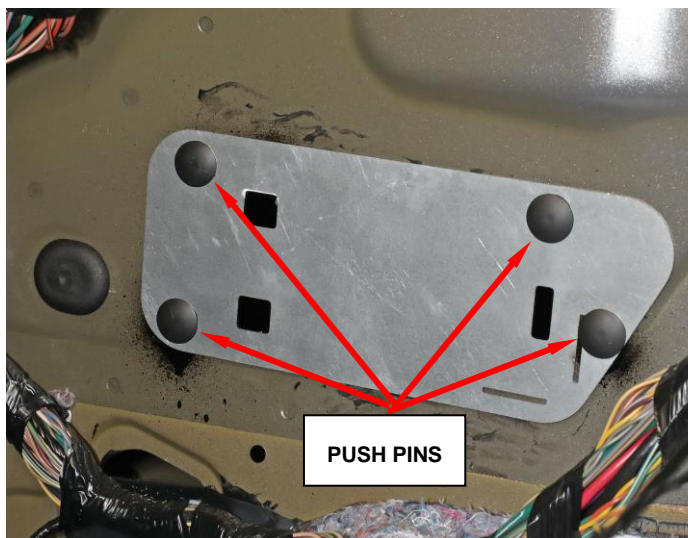

Figure 26 – Reinforcement Plate and Push Pins
- 19. Install the push pins to secure the reinforcement plate to the body (Figure 26).